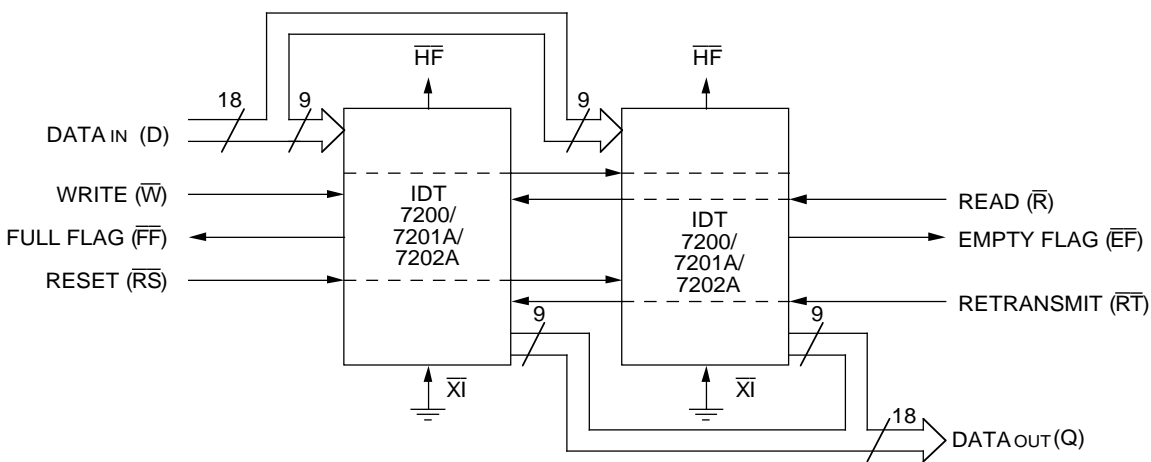

Figure 13. Block Diagram of 256/512/1024 x 18 FIFO Memory Used in Width Expansion Mode
Word width may be increased simply by connecting the corresponding input control signals of multiple devices. Status flags ( $\overline{EF}$ ,  $\overline{FF}$  and  $\overline{HF}$ ) can be detected from any one device. Figure 13 demonstrates an 18-bit word width by using two IDT7200/7201A/7202As. Any word width can be attained by adding additional IDT7200/7201A/7202As (Figure 13).
2. For Flag detection see section on Width Expansion and Figure 13.